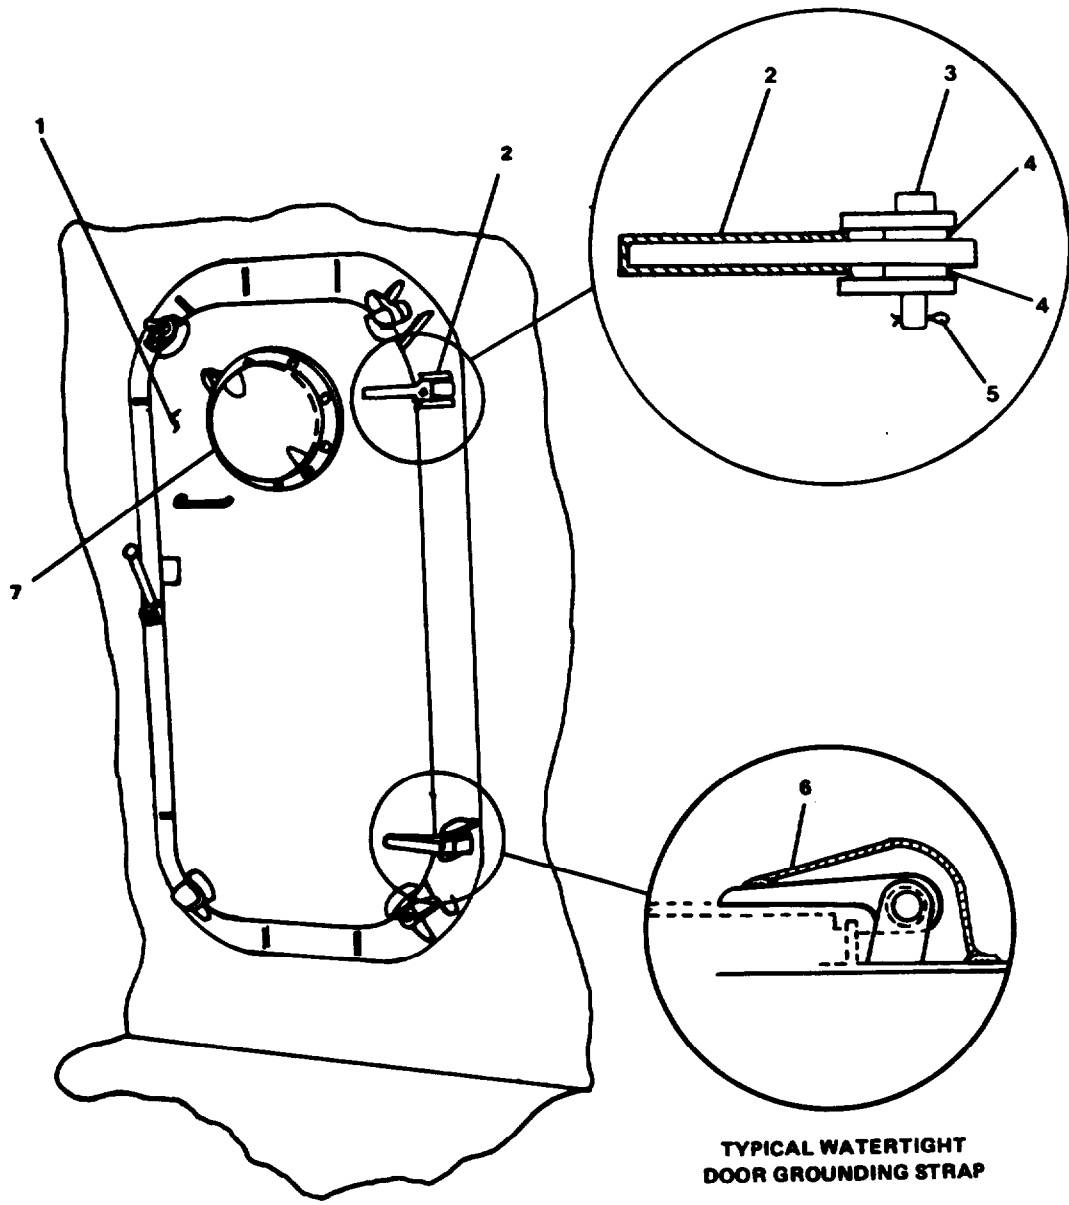

FIGURE 2-168 Replace Waternight Door Four Dogs (30 X 51)
- a. Remove (if installed) grounding straps (6, FIGURE 2-168) from hinge blades (2) and from bulkhead.
- b. Open door (1).
- a. Place door (1, FIGURE 2-168) in position on frame.
- b. Install flat washers (4) and align holes.
- g. Install (if removed in step a of removal procedure) grounding straps (6, FIGURE 2-168) to hinge blades (2) and to bulkhead.